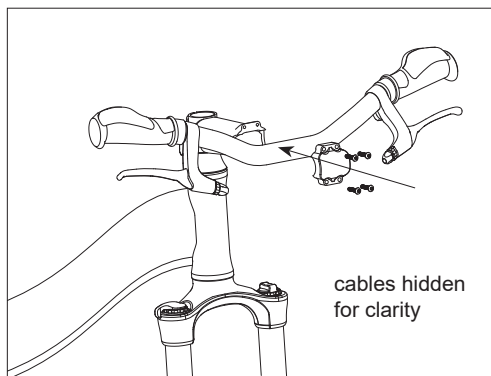

Fig. 8: Replace and center handlebars.
2. Place and center handlebars within the stem (some have centerline marks), and replace screws (Fig. 8).